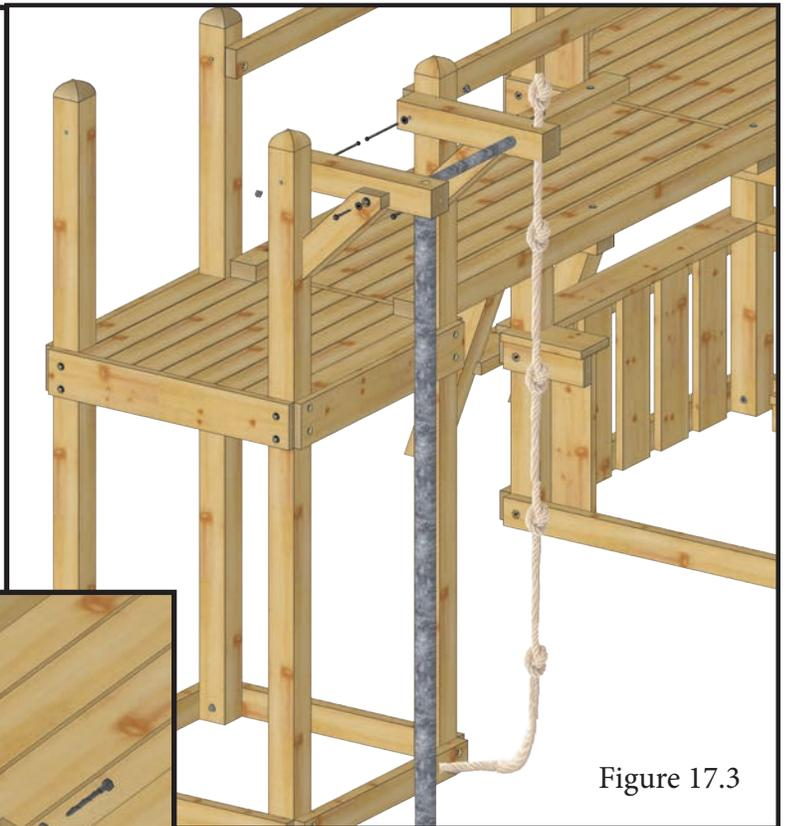

Figure 17.3
17.4 Tie the Rope through the Firepole Beam. Tie 7 knots down the rope, and tie through the rope hole in the Top Panel 33" as shown in Figure 17.3.